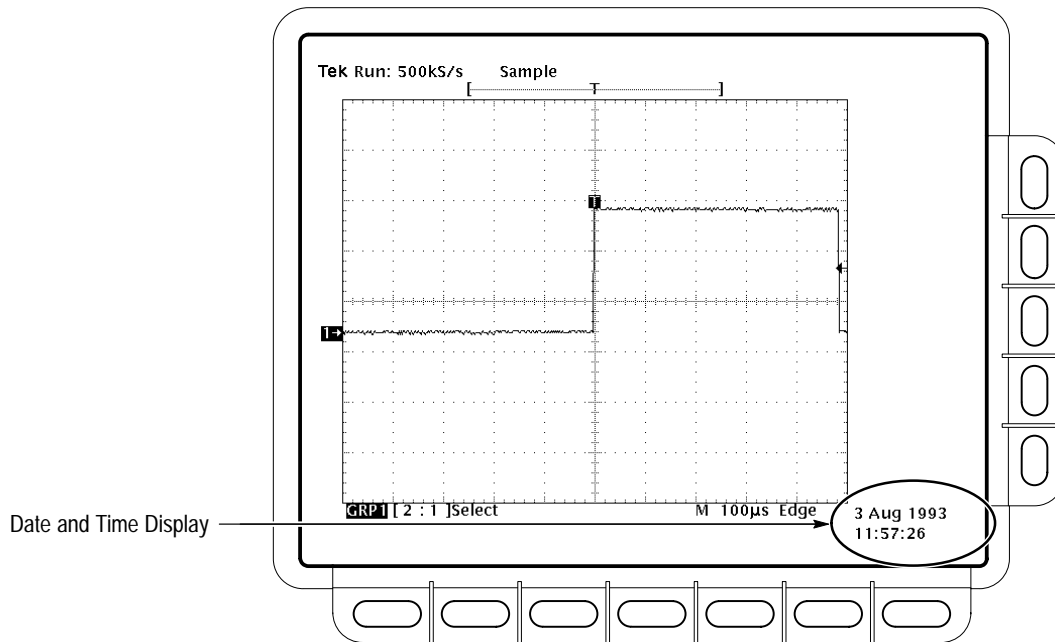

Figure 3-44: Date and Time Display
3. Press **Clear Menu** to remove the menu from the display so the date and time can be displayed. (See Figure 3-44.) (The date and time are removed from the display when menus are displayed.)